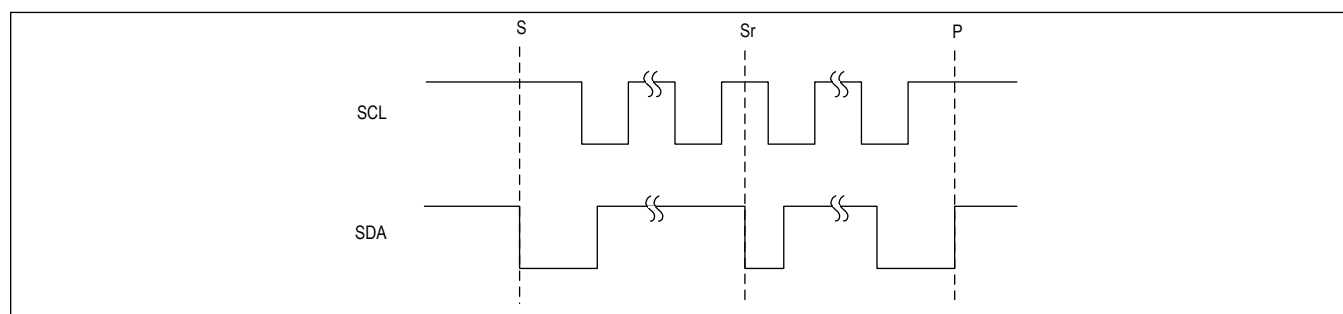

Figure 36. I²C START, STOP, and REPEATED START Conditions
When writing to the MAX20360 using the I²C interface, the master sends a START condition (S) followed by the MAX20360 I²C address. After the address, the master sends the register address of the register that is to be programmed. The master then ends communication by issuing a STOP condition (P) to relinquish control of the bus, or a REPEATED START condition (Sr) to communicate to another I²C slave. See Figure 36.